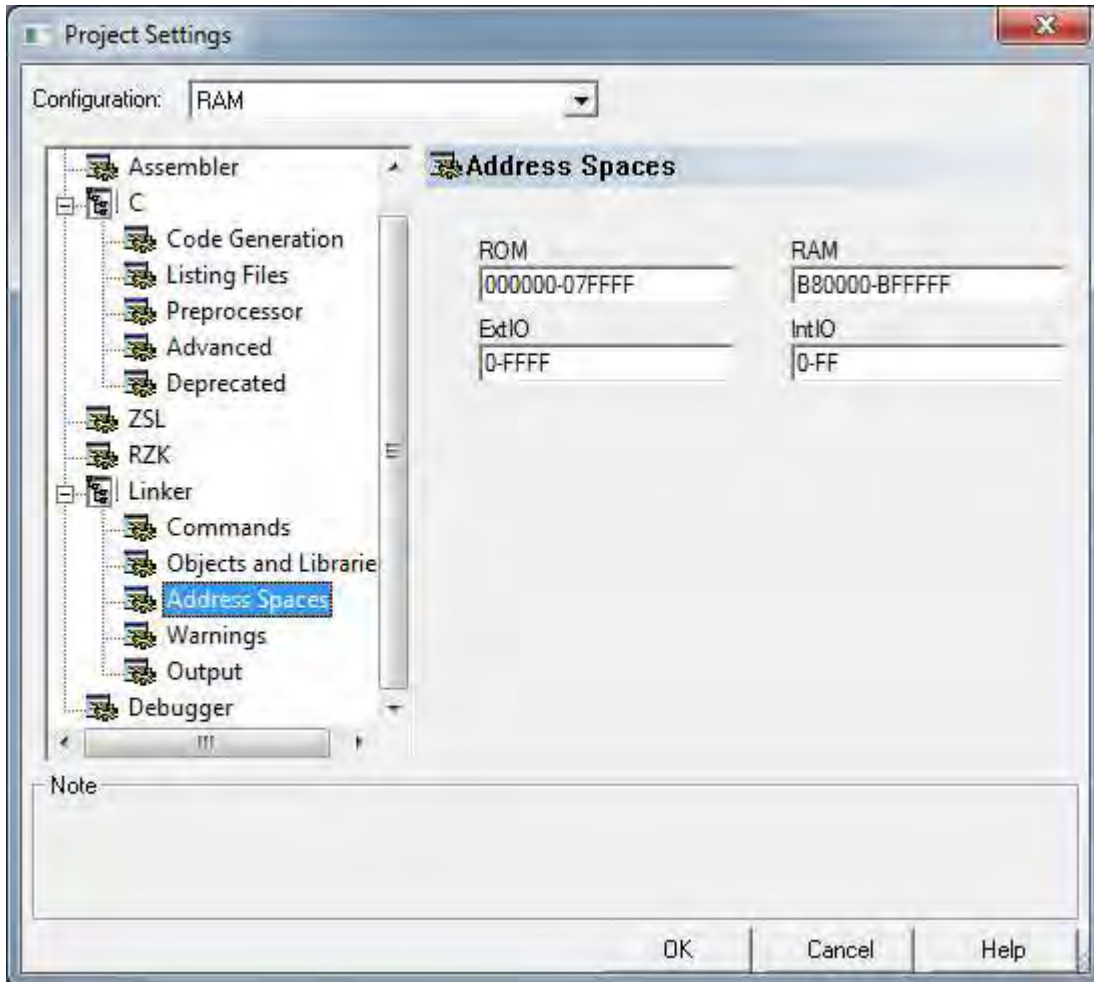

Figure 3. The Configure Target Dialog
5. When configuring RAM build configurations using the eZ80L925148MODG Module with the eZ80Acclaim! Development Platform, Zilog recommends using the settings in the Address Spaces selection of the Project Settings dialog, which is shown in Figure 3. Ensure that the project’s settings match the values displayed in this figure.
- Examine the settings of the remaining chip selects in the **Chip Select Registers:** drop-down menu, and verify that the settings for CS0 to CS3 correspond to the values shown in Figure 3.